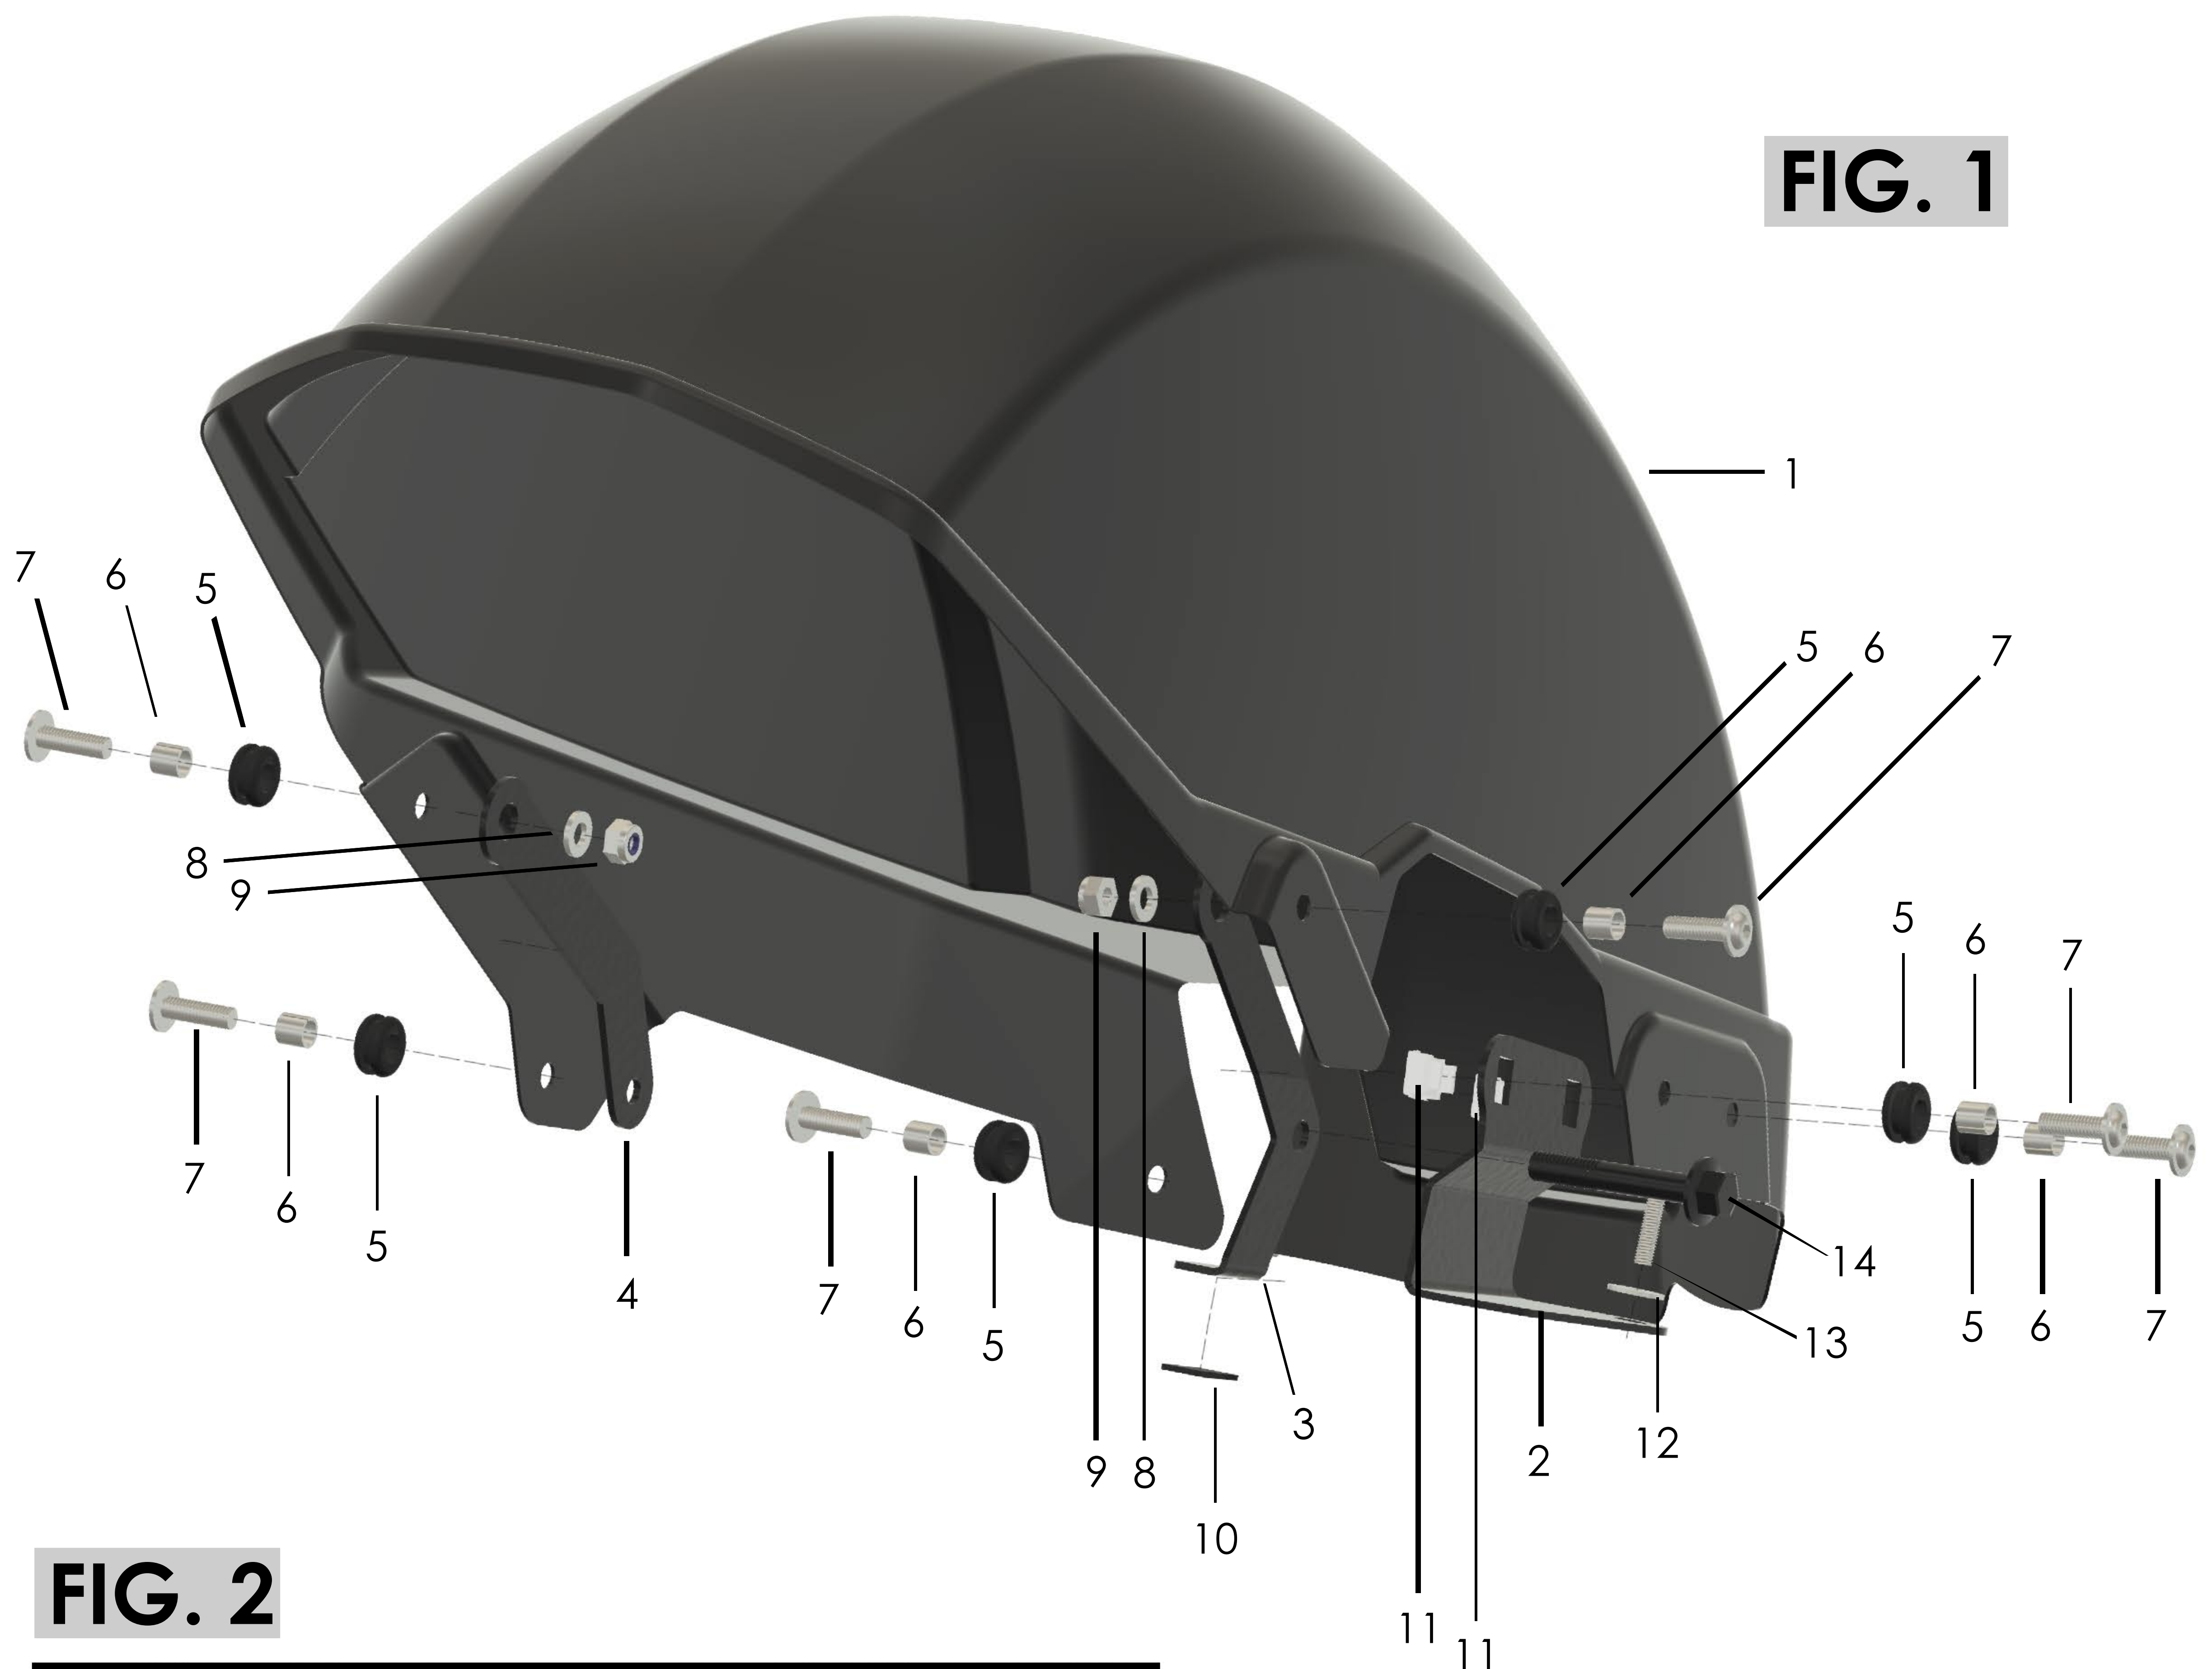

FIG. 2
- Please remove the OEM chainguard from the LHS of the bike to provide access to the mounting points located on the swingarm. See 'FIG. 2' for reference.